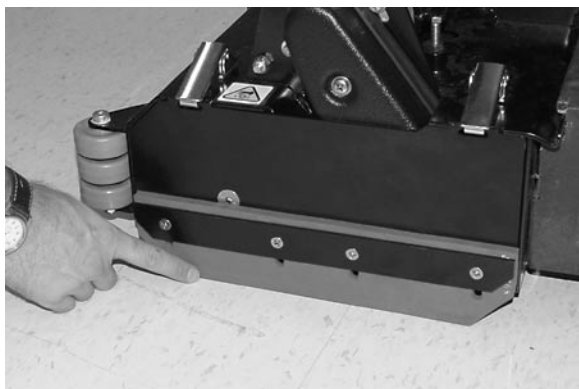

FIG. 38
- Check scrub head skirts for wear and adjustment. Skirts should touch floor, adjust if necessary (Figure 38). Replace if damaged.